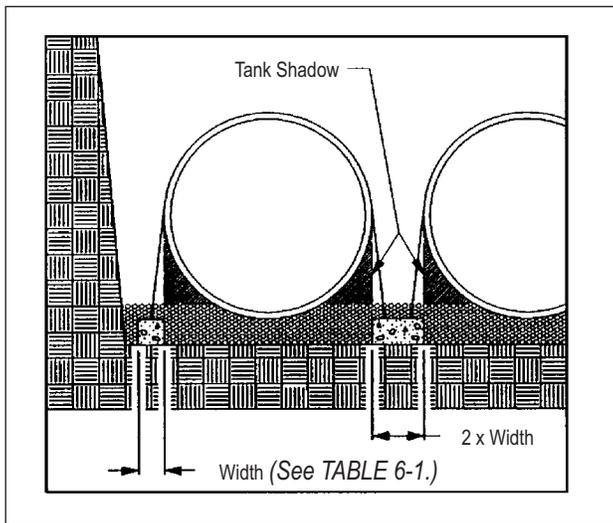

FIGURE 5-3
5.3.1.2. Always provide sufficient clearance to allow the deadmen to be set outside the tank "shadow." (See FIGURE 5-3.)
6.2.8. Lay the deadmen in the excavation parallel to the tank and outside the tank “shadow.” (See *FIGURE 5-3*.)